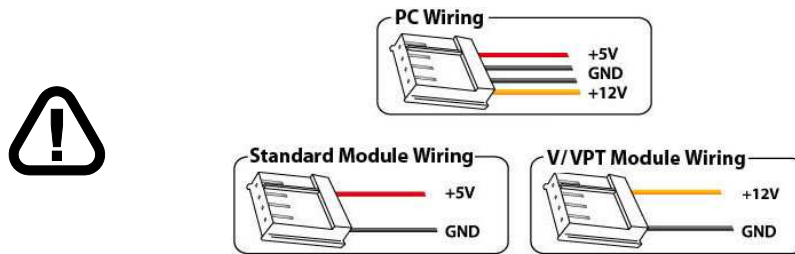

Figure 8: PC vs Matrix Orbital Display Module Wiring
- First, you will want to make sure that you are using the correct power connector. Standard floppy drive power cables from your PC power supply may fit on the Power/Data Connector however they do not have the correct pin out as can be seen in *figure 8 on page 6*. Matrix Orbital supplies power cable adapters for connecting to a PC, which can be found in the *Accessories Section on page 2*.